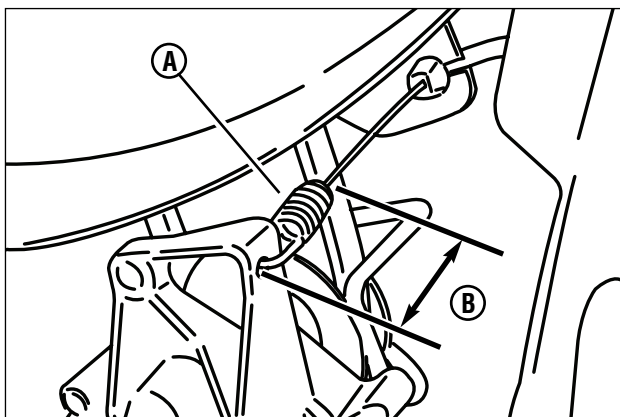

Figure 19: Measuring the disengaged transmission spring length
2. With the wheel drive control lever in the 'DISENGAGE' position, the spring (**A, Figure 19**) on the end of the wheel drive control cable should have no tension. Measure the overall length of the unextended spring (**B**).